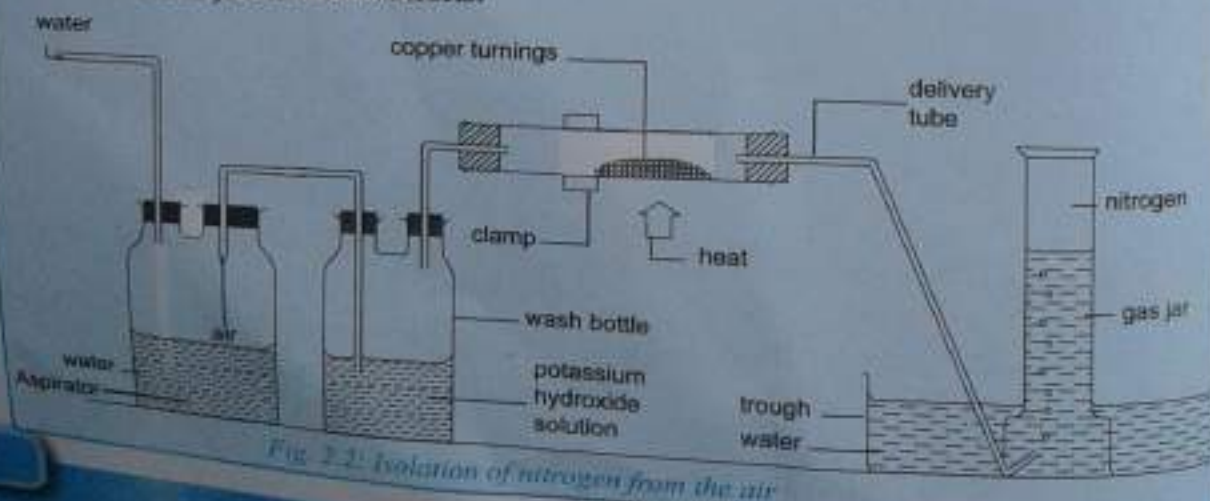

Fig. 2.2: Isolation of nitrogen from the air
1. Arrange the apparatus as shown in Fig. 2.2 below.